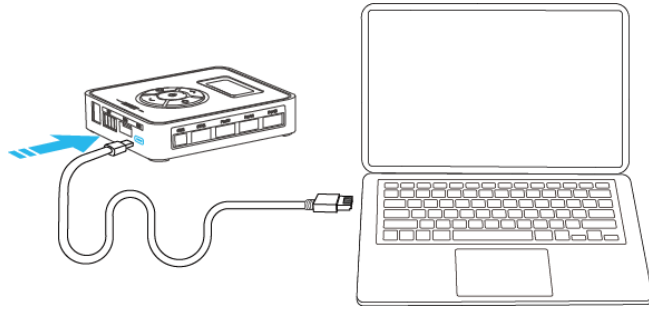

Figure 4.7 Connect device with USB
Step 1 Connect Magic Box to the USB interface of computer using USB cable, as shown in Figure 4.7.